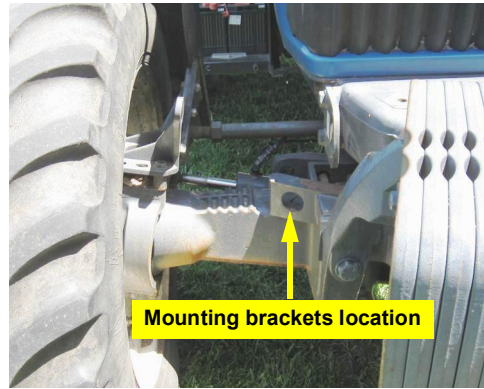

Figure 2a: WAS mounting brackets location
a. Identify the WAS bracket mounting location on the front right side of the front axle (Figure 2a).
- a. Using hardware **WQ** (or the two existing bolts), install WAS mounting bracket **WM** between the bolts (or fender bracket) and the axle (Figure 2a and inset). Install the bracket as follows: